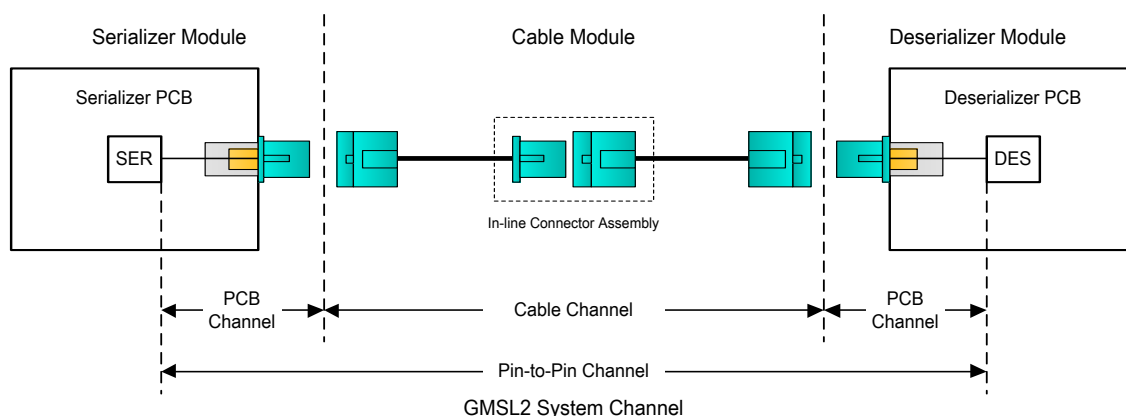

Figure 2.B. GMSL2 Channel Definition
**Note:** Figure 2.B does not depict AC-coupling capacitors and optional power over coax (PoC) or line-fault components are not depicted in.